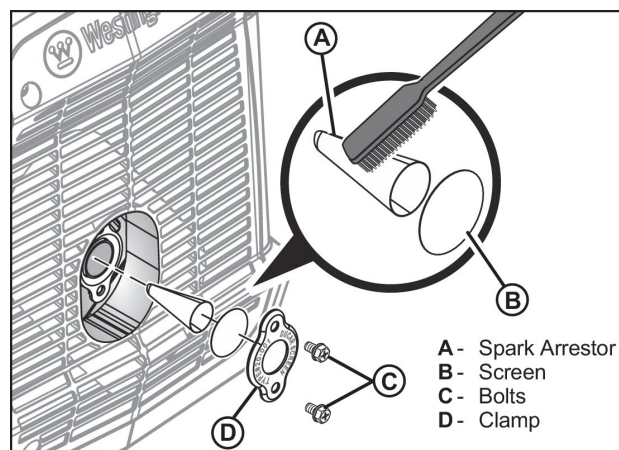

Figure 33 Remove and Clean the Spark Arrestor
2. Pull off the screen and remove the spark arrestor (see Figure 33).